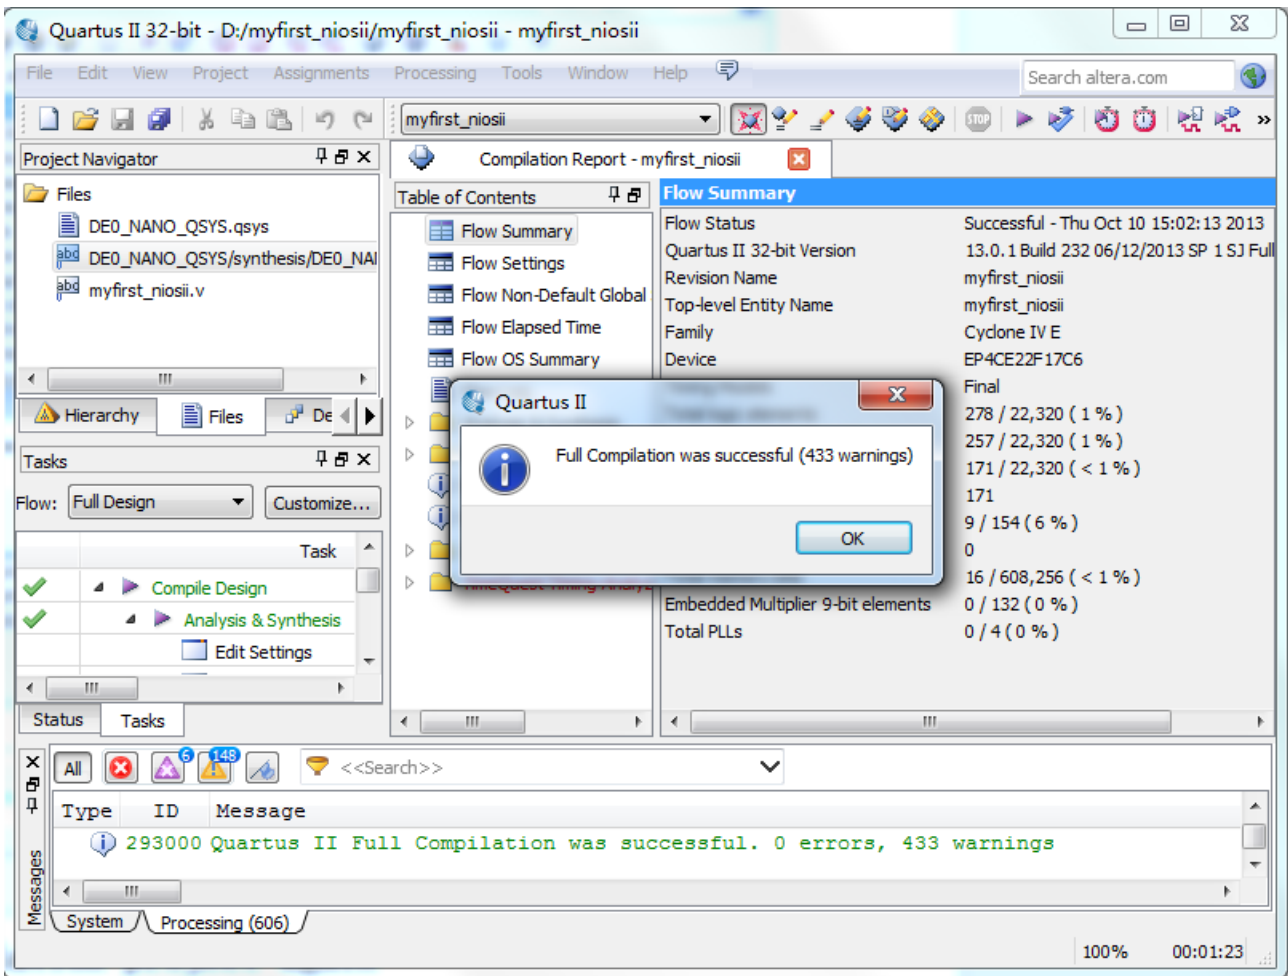

Figure 1-68 Compilation project again
41. Close the **pin planner**. Restart compilation the project as shown in **Figure 1-68**.